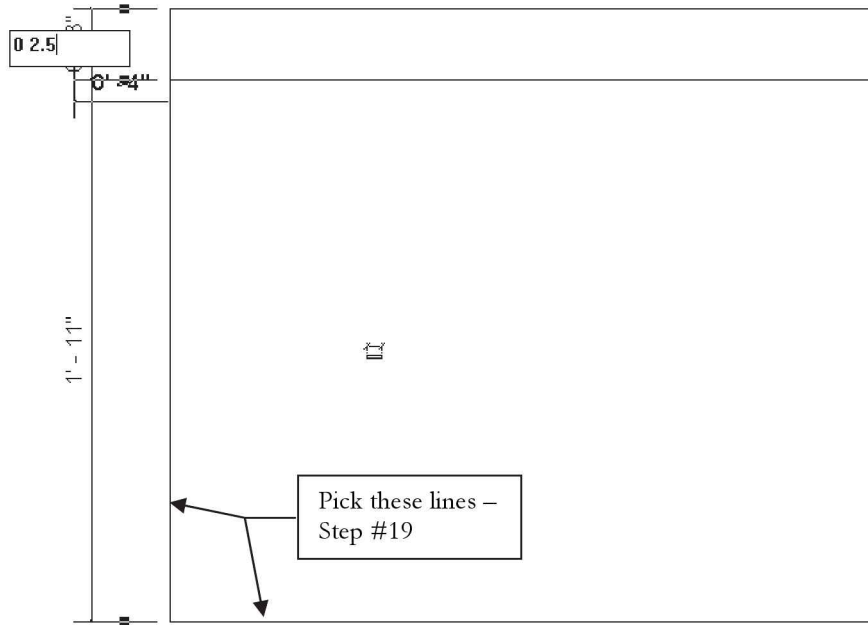

FIGURE 4-2.5 Adjusting new lines position via temporary dimensions
15. With the temporary dimensions still displayed, click the text for the 0'-3" dimension, type **0 2.5** and then press **Enter** (Figure 4-2.5).
19. Pick the two lines identified in Figure 4-2.5.